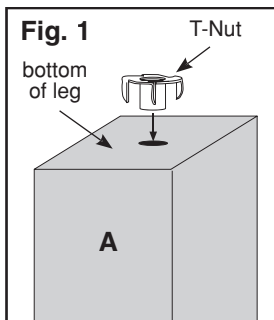

Fig. 2
STEP 2. Assemble **Assembly 1** (Fig. 2).